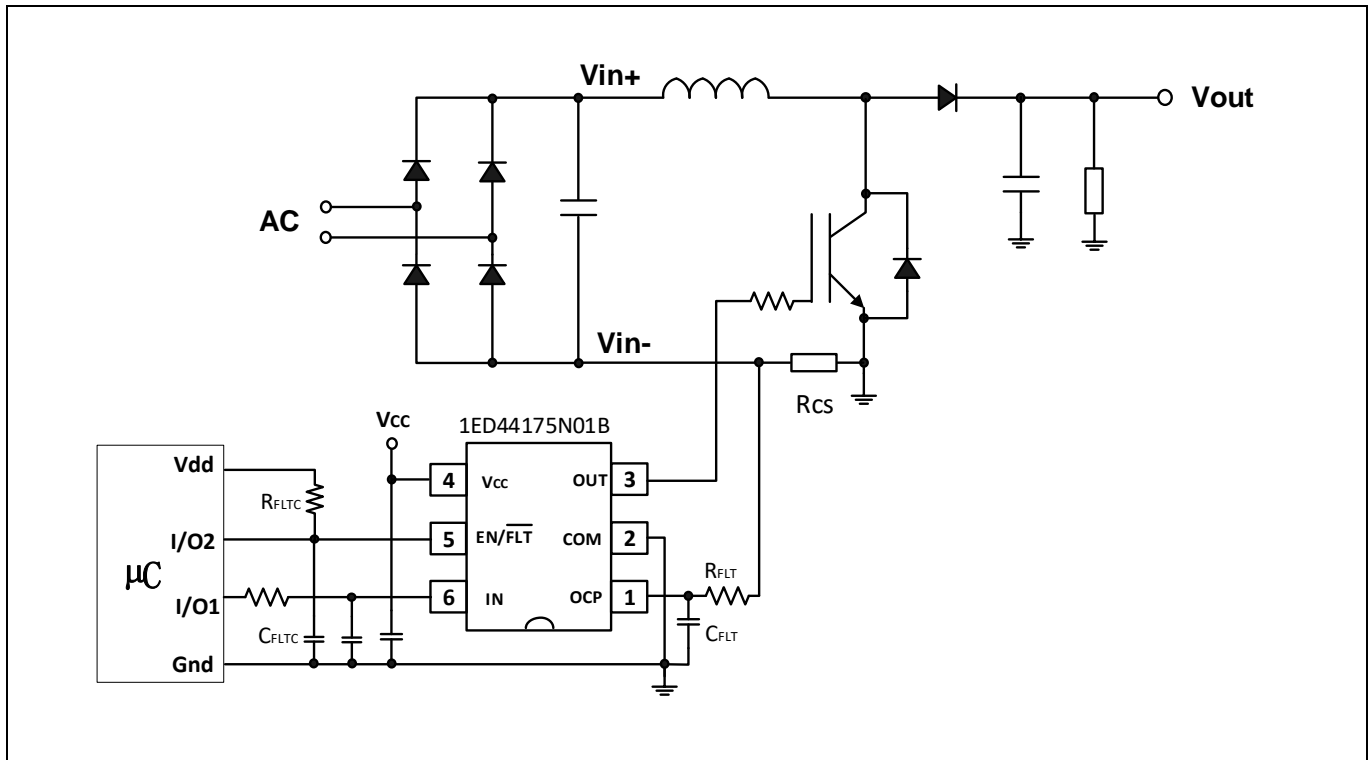
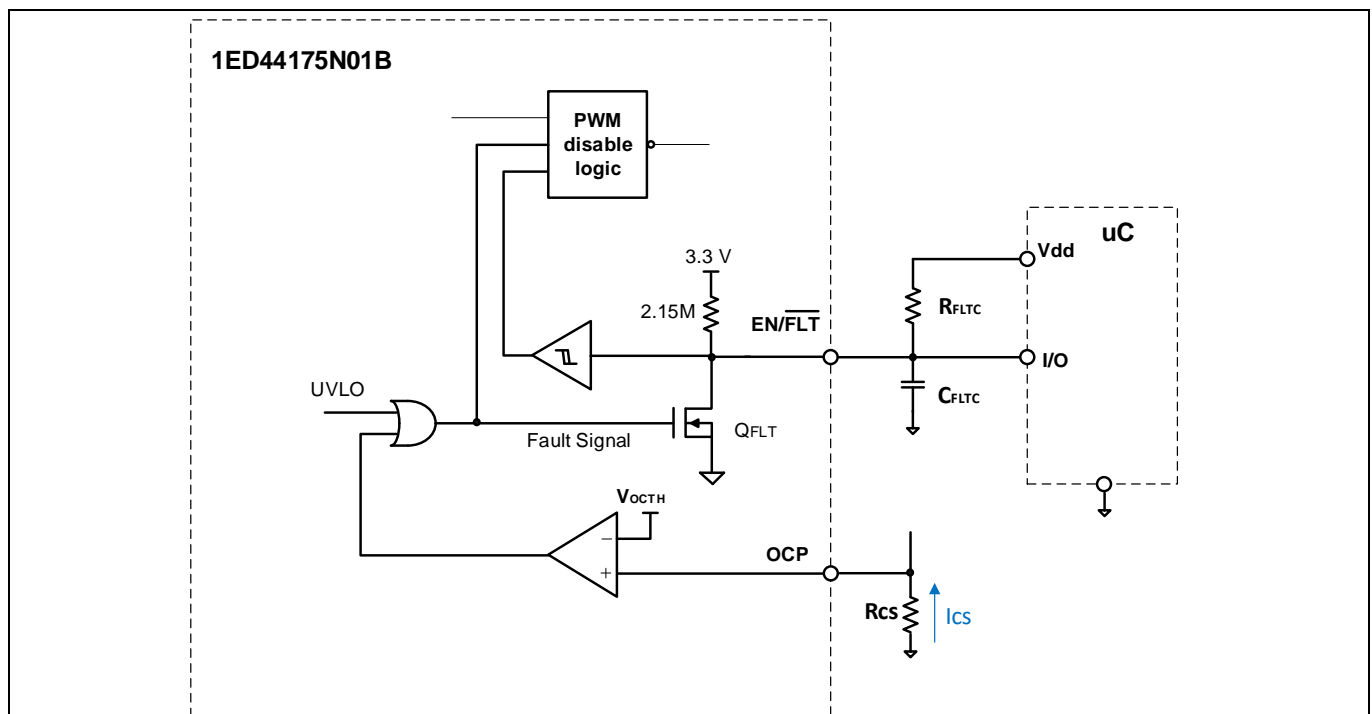

Figure 5 Application circuit example of active power factor correction (APFC) with R_{cs} for OCP
Figure 11 Diagram of the fault output circuit and fault clear time setup
- The R_{CS} should be connected between the pin of system ground and the input power return to detect short-circuit current (refer to Figure 5). An RC filter needs to be connected between the shunt resistor and the OCP pin if the internal blanking time is not sufficient to eliminate the noise.
Figure 5 shows a typical application circuit of 1ED44175N01B for the interface schematic with control signals connected directly to a XMC™ μ C.
The length of the fault clear time period (t_{FLTc}) is determined by exponential charging characteristics of the capacitor where the time constant is set by R_{FLTc} and C_{FLTc} . Figure 11 and Figure 5 show that R_{FLTc} is connected between the external supply ($V_{\text{dd}} = 3.3 \text{ V}$) and the EN/ $\overline{\text{FLT}}$ pin, while C_{FLTc} is placed between the EN/ $\overline{\text{FLT}}$ and COM pins. Actually the EN/ $\overline{\text{FLT}}$ pin is pulled up to 3.3 V with a 2.15 M Ω pull-up resistor internally.